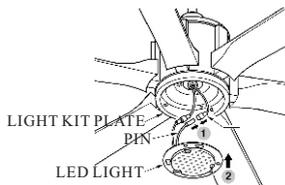

FIG.15
4. Plug together light kit wires from fan to light kit wires from LED light(see Fig.15)